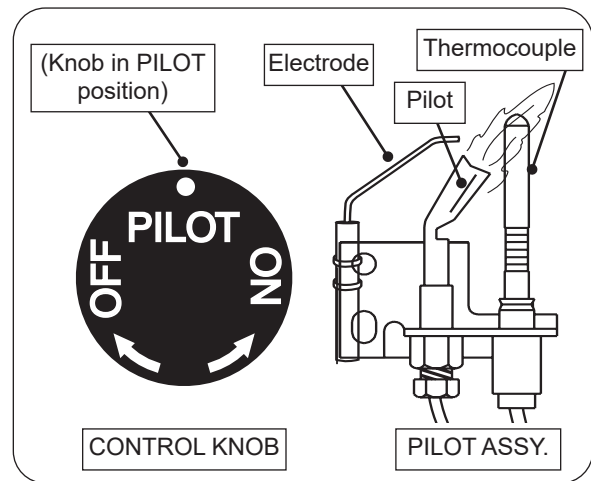

Fig. 34-1 Pilot lighting
3. Locate the pilot assembly on the side or rear of the burner pan (see Fig. 34-1).
4. Turn the control knob counterclockwise to **PILOT**. Push the knob **firmly and fully** in and hold. Push the piezo igniter button several times until the pilot lights. Continue to hold the knob in for about one (1) minute after the pilot is lit. Release the knob and it will pop back out. The pilot will remain lit. See Fig. 34-1. If it goes out, repeat steps 2-4.